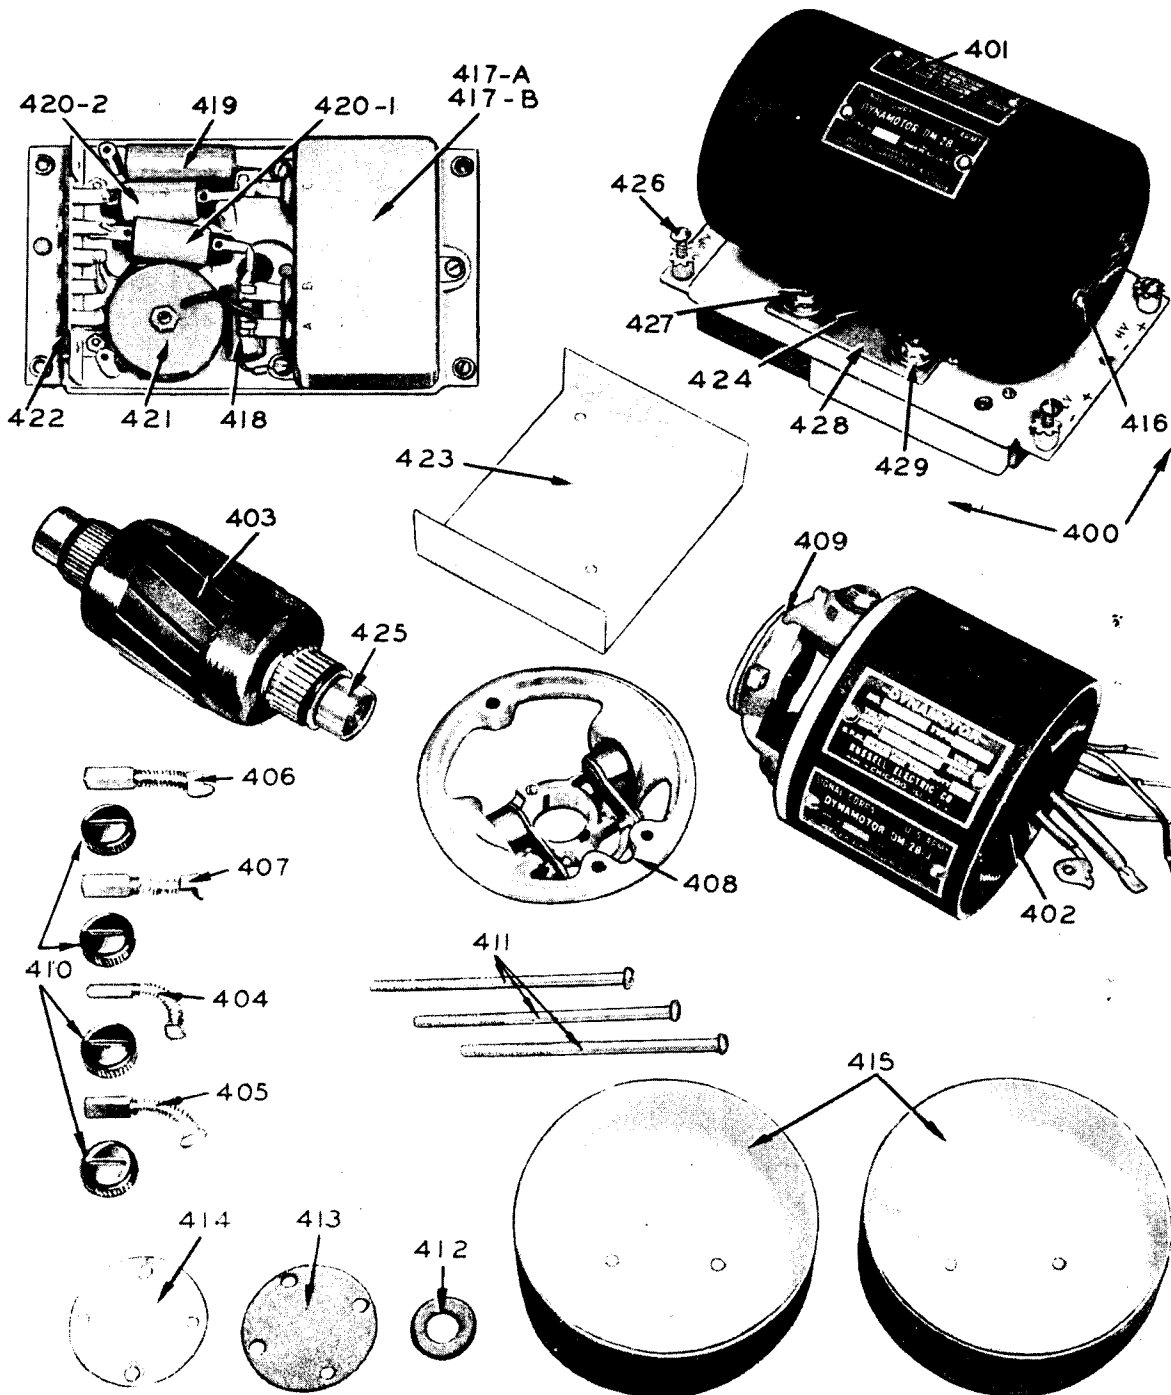

Figure 8 — Dynamotor DM-28-J and Filter
e. ONE YEAR.—Repeat above. Inspect and replace dynamotor brushes if necessary. Lubricate dial and tuning capacitor drive mechanism. Check dynamotor and tube socket voltages as described in Paragraphs 34*e*(1) and 34*b*(1).
a. REMOVAL FROM CHASSIS.—The dynamotor and filter assembly (Figure 8, reference 400) may be removed easily from the receiver chassis by repeating the following steps in the order given:
(1) Loosen two thumbscrews 299 on the front panel, and remove the chassis from the cabinet.
(2) Loosen the five screws on the dynamotor terminal strip 422, and withdraw the five leads with spade terminals from under them. Retighten the five screws partially in order that they will clear the chassis when the dynamotor is removed.
(3) Push the left (from front of chassis) thumb-screw rod stop spring towards the end plate with a screwdriver, and withdraw thumbscrew rod 299 until the second stop position is reached.
(4) Loosen the four captive screws 426 which fasten the dynamotor to the chassis, and lift the dynamotor vertically from the receiver.